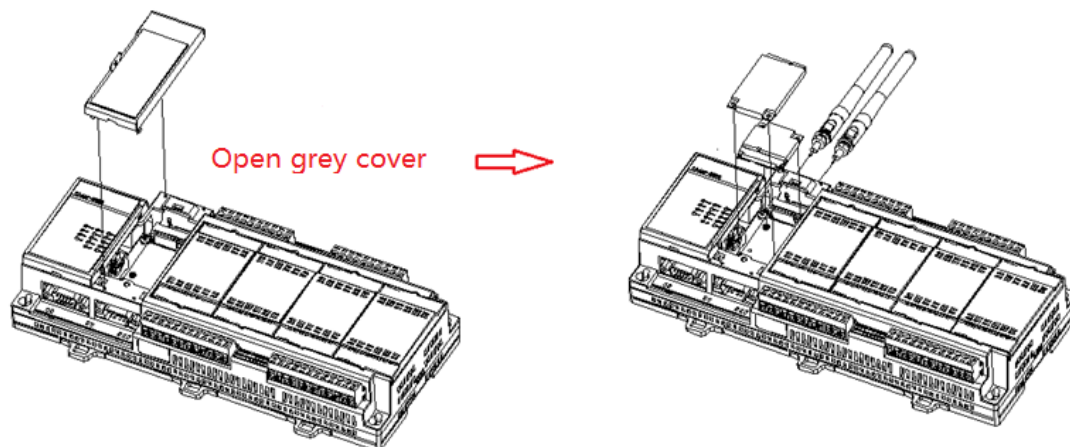

Figure 3.8 Wireless Module Installation
**Antenna Grounding:** The antenna base of wireless modules should be grounded to the cabinet to prevent lightning-induced surges (Figure 3.8).